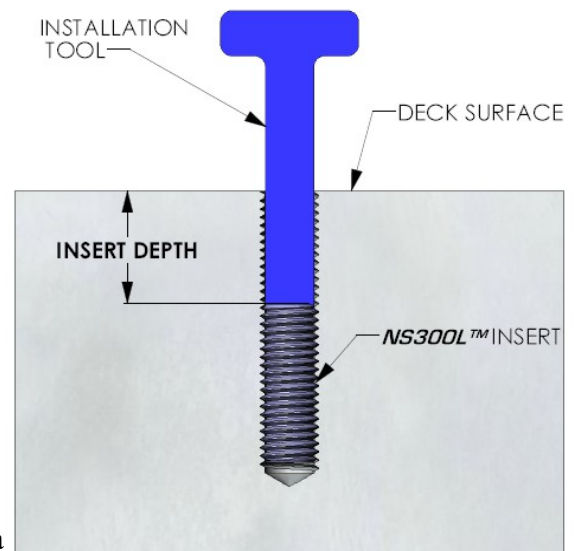

FIGURE 4
6. Thoroughly clean the newly threaded hole of any metal chips. Next, check to make sure the inserts will install to the correct depths, **prior** to adding Threadlock (Figure 4). **For insert depths, see provided instructions sheet specific for the engine being repaired. Note! Add a light coating of penetrating oil to the outside of the insert prior to making sure the insert will screw in to the correct depth. This will help prevent the soft aluminum from fusing to the steel insert, helping to prevent the insert from seizing up, due to any left over debris in the hole or a possible burr on the insert. Never force an insert!**